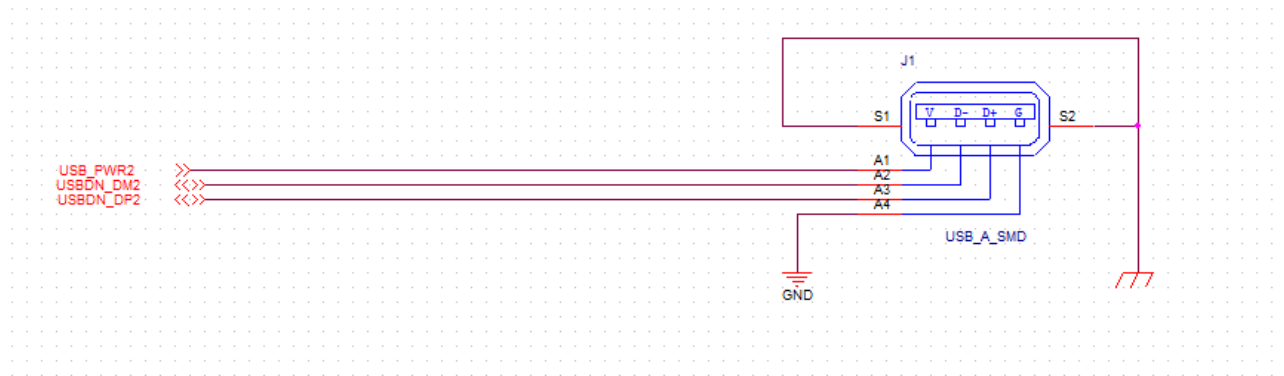

Figure 5: USB Host example
- The USB HOST channels on J9 (USBDN_DP2, USBDN_DM2, USBDN_DP3, USBDN_DM3) has already the power protections and management on the the NOVASOMP board , and can be driven using a schematic like the one in the following Figure 5 (USBDN_DP2, USBDN_DM2 is shown, but the same can be used for USBDN_DP3, USBDN_DM3 with the USB_PWR3 signal).